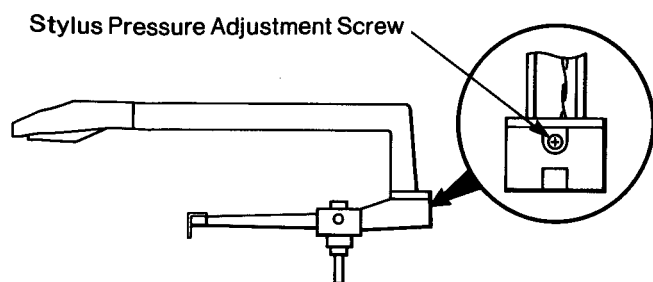

Fig. 2
4. Adjust the stylus pressure adjustment screw (Fig. 2) through the adjustment hole, so that the stylus pressure becomes 1.8 ~ 2.2 g.